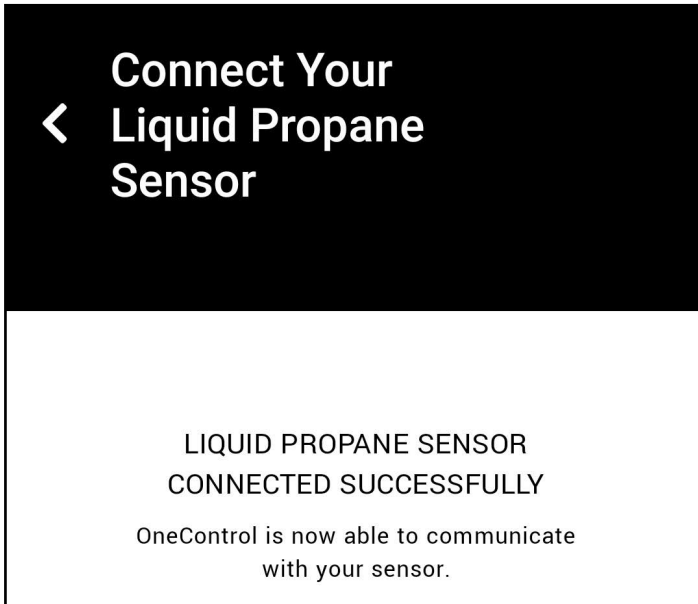

Fig.5
6. Press and hold the SYNC button. When the OneControl app finds the LP Sensor, it will pair automatically (Fig.5).